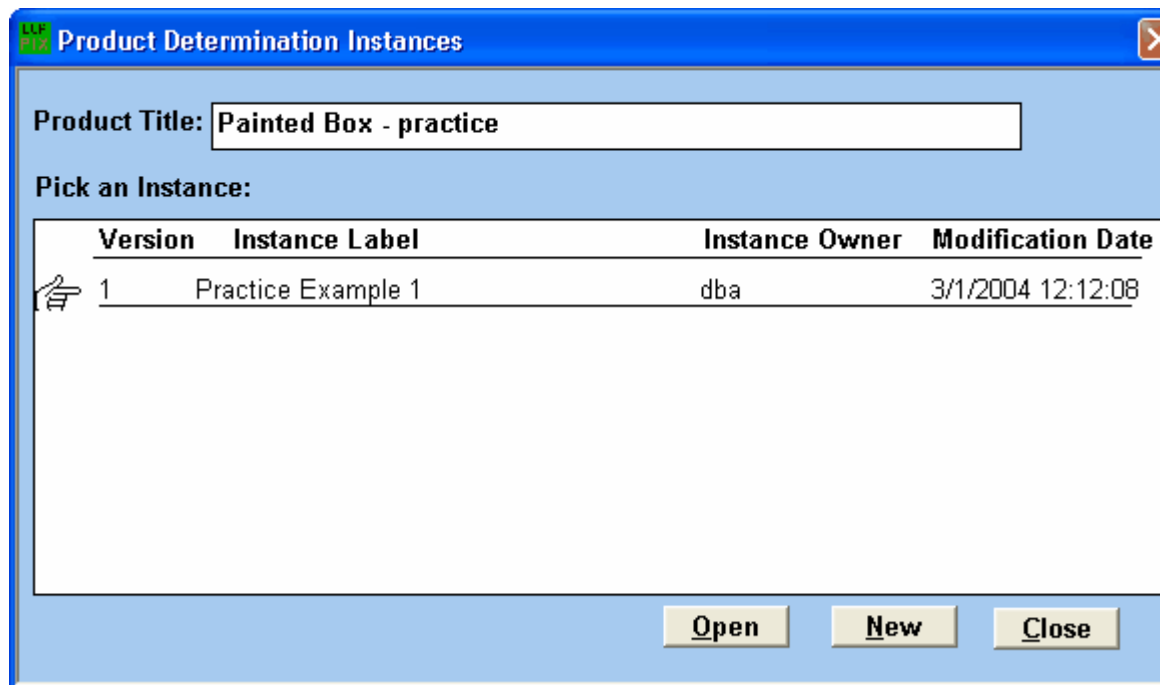

Figure 11: Screen for assigning an instance label to a set of product specifications.
3. In this window all the products that are present in the database will be listed. Choose **OPEN** after selecting the product "Demonstration - Painted Box." It will bring up a Window as shown in Figure 11.
4. Remember that in the **Determination** step all we are doing is providing a set product specification. As we can have more than one set of specifications for the same product (see Figure 8). Each set of product specifications is called an instance and there are 2 instances in Figure 11. Click the mouse on instance with the *Instance Label* "**Practice Example 1**" so the hand is pointing to it. In Figure 11 the hand is pointing to Instance Label "**Practice Example 1**." Then either choose **OPEN** or double click the mouse to open the instance.
8. Pressing the **FORWARD** button will cycle the screen through all the Elemental Component Processes to provide you an opportunity to enter the driver values. The **BACK** button will take you to the previously displayed Elemental Component Process. The **TOP** button returns you to the Elemental Component Process that was displayed first when you entered the *Determination Driver Values* Window. Choose OK to return to the main **Determination** screen shown in Figure 11.